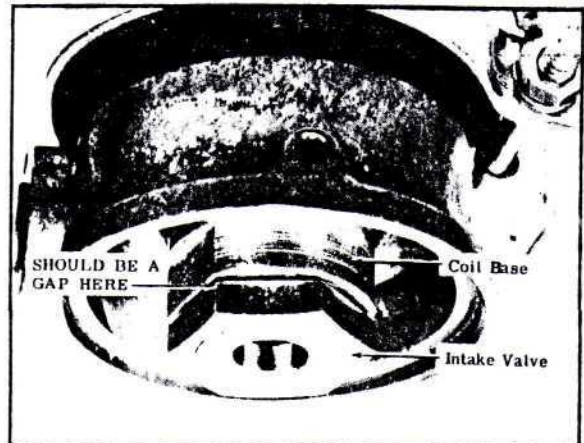

FIGURE 18
**CAUTION:** Do not seat the intake valve on the coil base (See Figure 18).